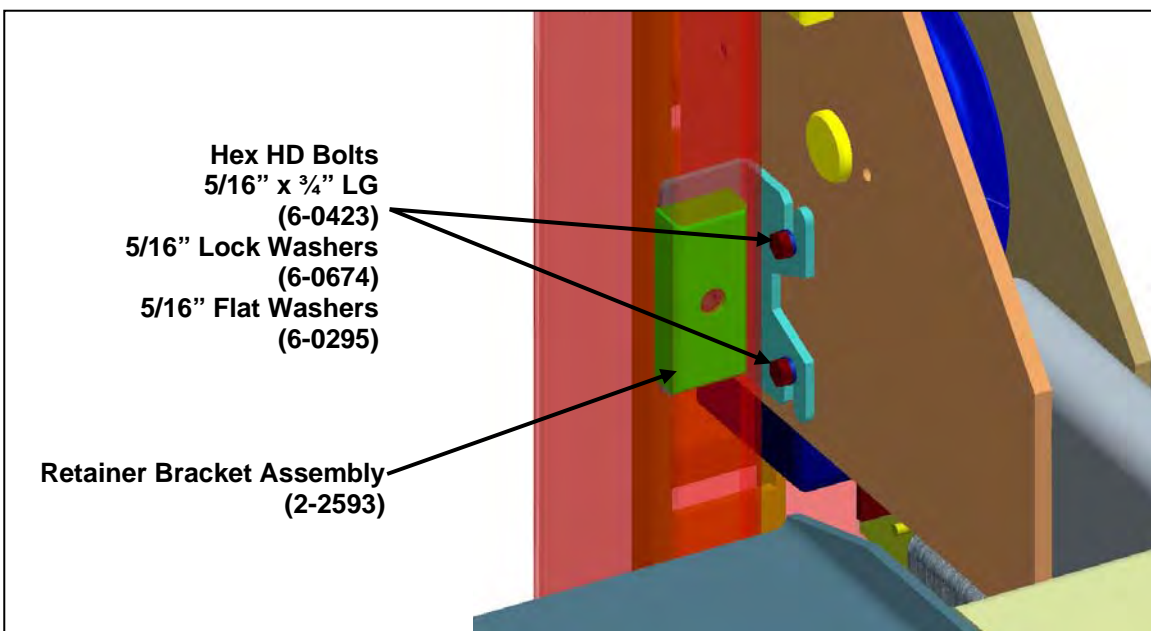

Figure 13. Retainer bracket installation
- Install the second 5/16"x 3/4" long hex head bolt and 5/16" lock washer through the lower slot and into the bottom mounting hole in the crossmember. Tighten both of the bolts. See Figure 13.